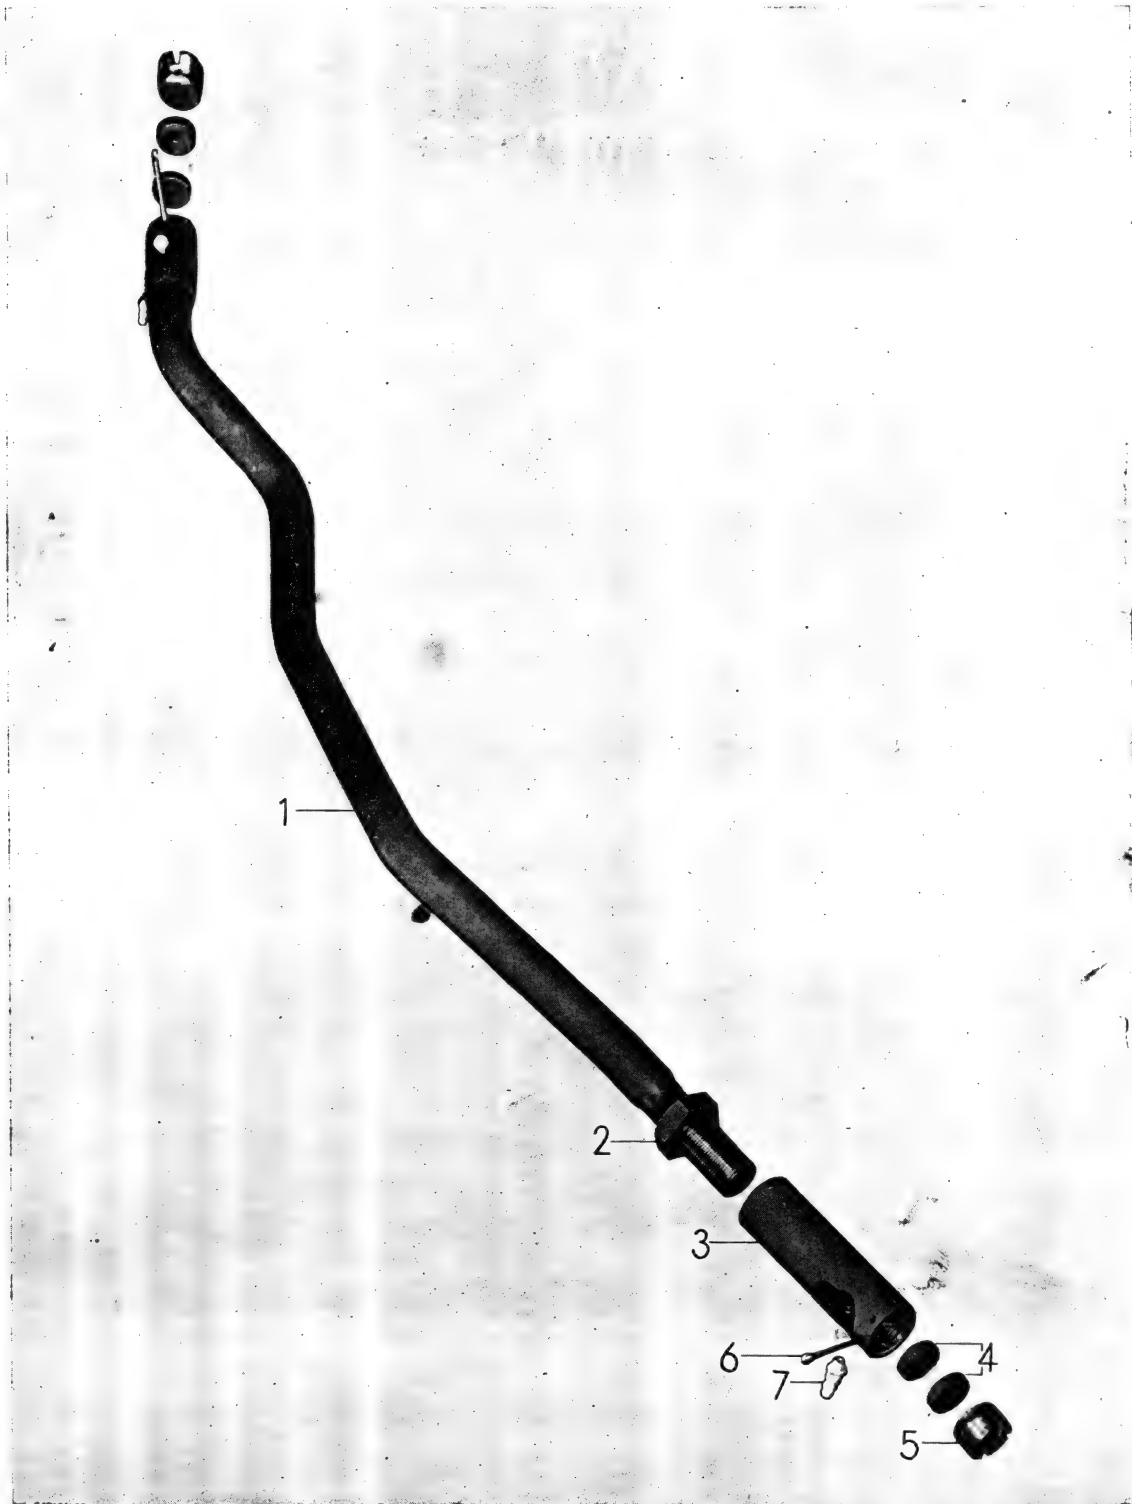

Figure 34 — Drag Link Assembly and Parts
**DRAG LINK ASSEMBLY AND PARTS (Fig. 34)**